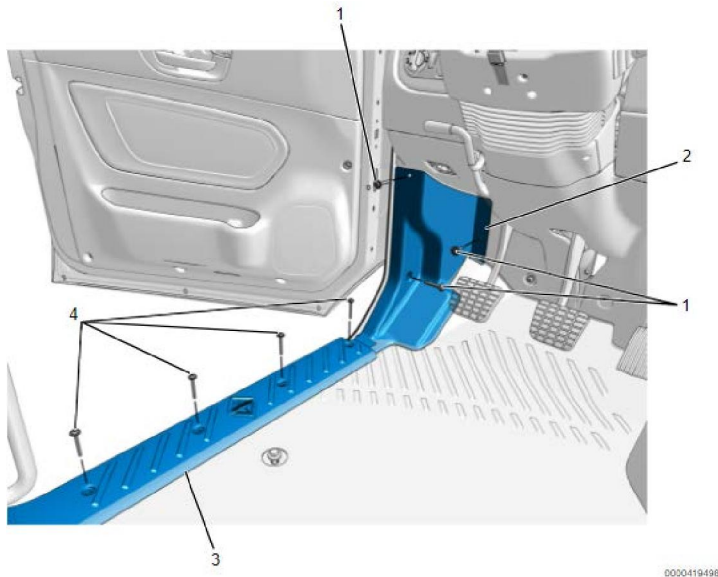

Figure 4. Driver-Side Scuff Plate and Kick Panel
1. Kick panel bolt and screw (3)
4. Scuff plate screw (4)
16. Position driver-side kick panel (Figure 4, Item 2) into place.
17. Install driver-side kick panel bolts and screws (Figure 4, Item 1). Using torque wrench, tighten bolts and screws to 11 lb-in (1.2 N·m).
18. Position driver-side scuff plate (Figure 4, Item 3) into place.
19. Install driver-side scuff plate screws (Figure 4, Item 4). Using torque wrench, tighten screws to 11 lb-in (1.2 N·m).